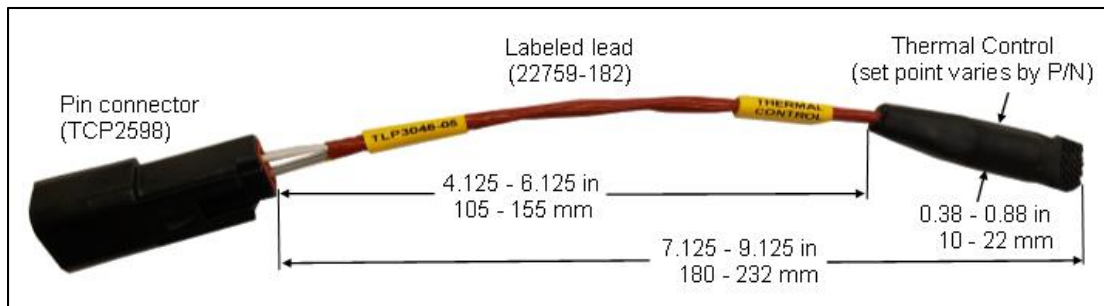

Figure 1. Example of TLP3046-05 thermal control configured with pin connector.
This series of controllers are configured with preset (not adjustable) creep action slow break circuit controller which limits operation of electrical resistance heating pads to ambient air temperatures below controller set point, refer to Figures 1, 2, and 3.
- a. New installation: Locate thermal control with reference to kit specific instructions and reference to Figures 1, 2, and 3.
- a. Secure thermal control with existing wiring using cable-tie and/or lace, or locate on structure with cable anchor and appropriate cable-tie, Figures 1, 2, and 3.